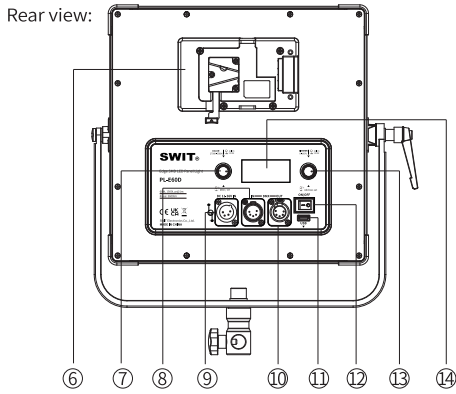
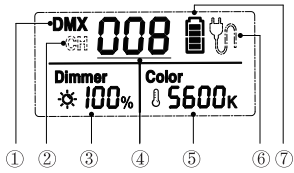

Fig. 6 PL-E60D
Fig. 8 LCD display
The light provides two ways of power supply, by V-mount or Gold mount battery or by 4-pin XLRAC-DC power. Turn on the light (Fig. 6 ⑫) and set the color temperature (Fig.6 ⑬) and brightness (Fig. 6 ⑦) to user's requirements.
The light provides two ways of adjusting the color temperature and brightness: normal adjusting mode and quick adjusting mode. User can switch the adjusting mode by press the dimmer knob and color temperature adjusting knob (Fig.6⑬/⑦). User can quickly set the dimmer and color temperature to their needs by combining two adjusting modes.
Press and hold dimmer knob (Fig.6⑬) for 2s to enter communication address setting interface, the address setting range is 001 to 512.
LCD digital tube (Fig.8 ④) flashing means the current address is selected, rotate the brightness adjusting knob (Fig.6⑬) to set the current address, press the brightness adjusting knob (Fig.6⑬) to confirm, when finish the last setting, press the brightness adjusting knob (Fig.6⑬) or wait for about 5s to quit.
Connect the lights network through using DMX cable. Press and hold color temperature adjusting knob (Fig.6 ⑦) for around 2 seconds to complete the communication control setting.
The upper left corner of LCD shows "DMX" (Fig.8①) indicating that the communication control mode currently is the DMX communication mode. In this mode, connect the DMX signal output device to the lights network, and set up the communication address to work normally. A light occupies 2 DMX control channels. The current DMX address (N) is brightness control, and the next set address of the current value (N+1) is color temperature control.
The upper left corner of LCD shows "CH" (Fig. 8 ②) indicating that the communication control mode currently is interaction control mode. In this mode, set the target lights to the same communication address to work normally, and the master-slave machine is not distinguished.